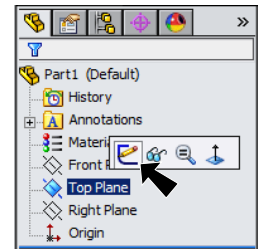
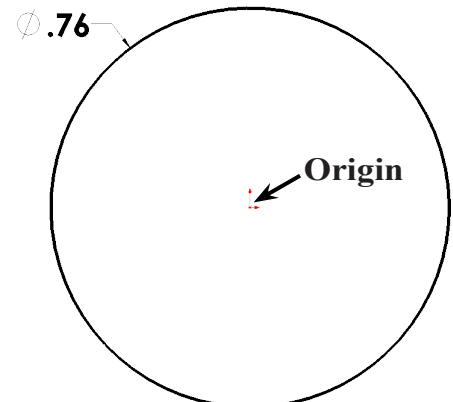
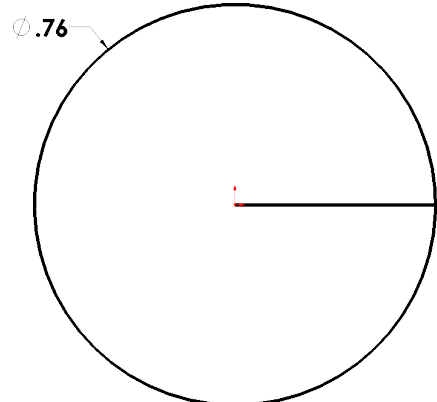

Fig. 1
Fig. 2
Fig. 3
Step 2. Click **Top Plane**  in the Feature Manager and click **Sketch**  from the Context toolbar, **Fig. 1**.
Step 3. Click **Circle**  (S) on the Sketch toolbar.
Step 4. Draw a **circle** starting at the Origin , **Fig. 2**.
Step 5. Click **Smart Dimension**  (S) on the Sketch toolbar.
Step 6. Dimension **diameter .76**, **Fig. 2**.
Step 7. Click **Zoom to Fit**  (F) on the View toolbar.
Step 8. Click **Line**  (L) on the Sketch toolbar.
Step 9. Starting at the Origin  draw horizontal line out to circle, **Fig. 3**.